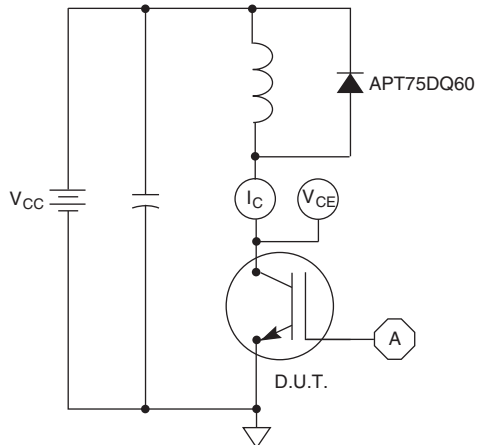

Figure 21, Inductive Switching Test Circuit
- ① Repetitive Rating: Pulse width limited by maximum junction temperature.
- ② For Combi devices,  $I_{ces}$  includes both IGBT and FRED leakages
- ③ See MIL-STD-750 Method 3471.
- ④  $E_{on1}$  is the clamped inductive turn-on energy of the IGBT only, without the effect of a commutating diode reverse recovery current adding to the IGBT turn-on loss. Tested in inductive switching test circuit shown in figure 21, but with a Silicon Carbide diode.
- ⑤  $E_{on2}$  is the clamped inductive turn-on energy that includes a commutating diode reverse recovery current in the IGBT turn-on switching loss. (See Figures 21, 22.)
- ⑥  $E_{off}$  is the clamped inductive turn-off energy measured in accordance with JEDEC standard JESD24-1. (See Figures 21, 23.)
- ⑦  $R_G$  is external gate resistance, not including  $R_{G(int)}$  nor gate driver impedance. (MIC4452)
- ⑧ Continuous current limited by package pin temperature to 100A.